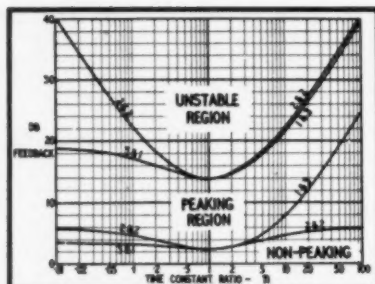

Fig. 8. Limit chart to aid in assessing performance of four-stage loops with non-identical time constants.
Curves of expressions (46), (47), (51), and (52) are plotted in Fig. 8. Naturally the two-pairs arrangement has symmetrical curves. The 3-and-1 combination (three acting before one) has lower boundaries than any other